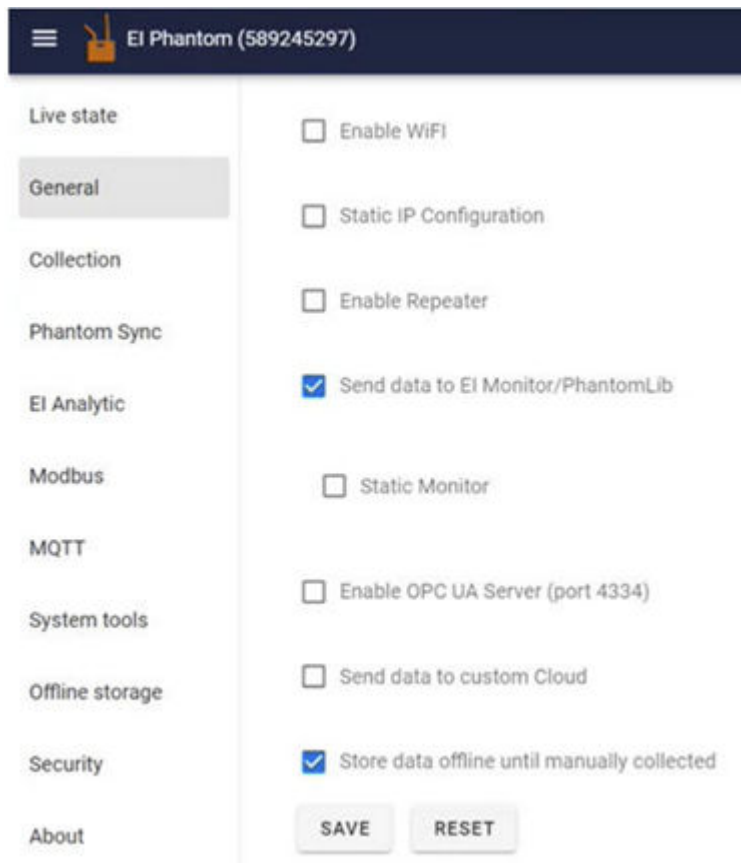

Figure 8. Phantom General menu selection dialog
7. Within the General menu of the Erbessd gateway webpage, ensure that “Send data to EI Monitor/ PhantomLib” and “Store data offline until manually collected” are both checked (see Figure 8)